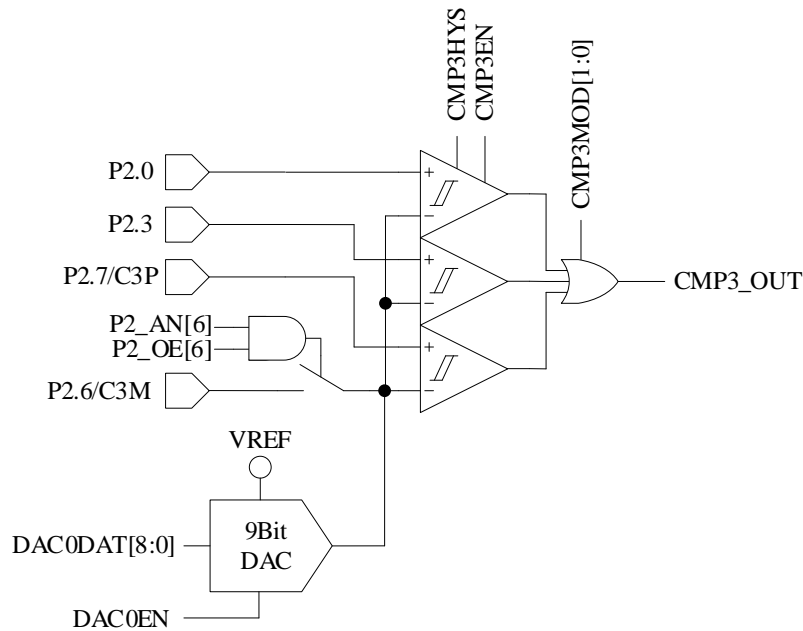

Figure 29-4 Triple-comparator Input Mode
- When CMP\_CR1[CMP3MOD] = 1X, CMP3 works in Triple-comparator Input Mode. The connection of input and output pins are as shown in Figure 29-4.